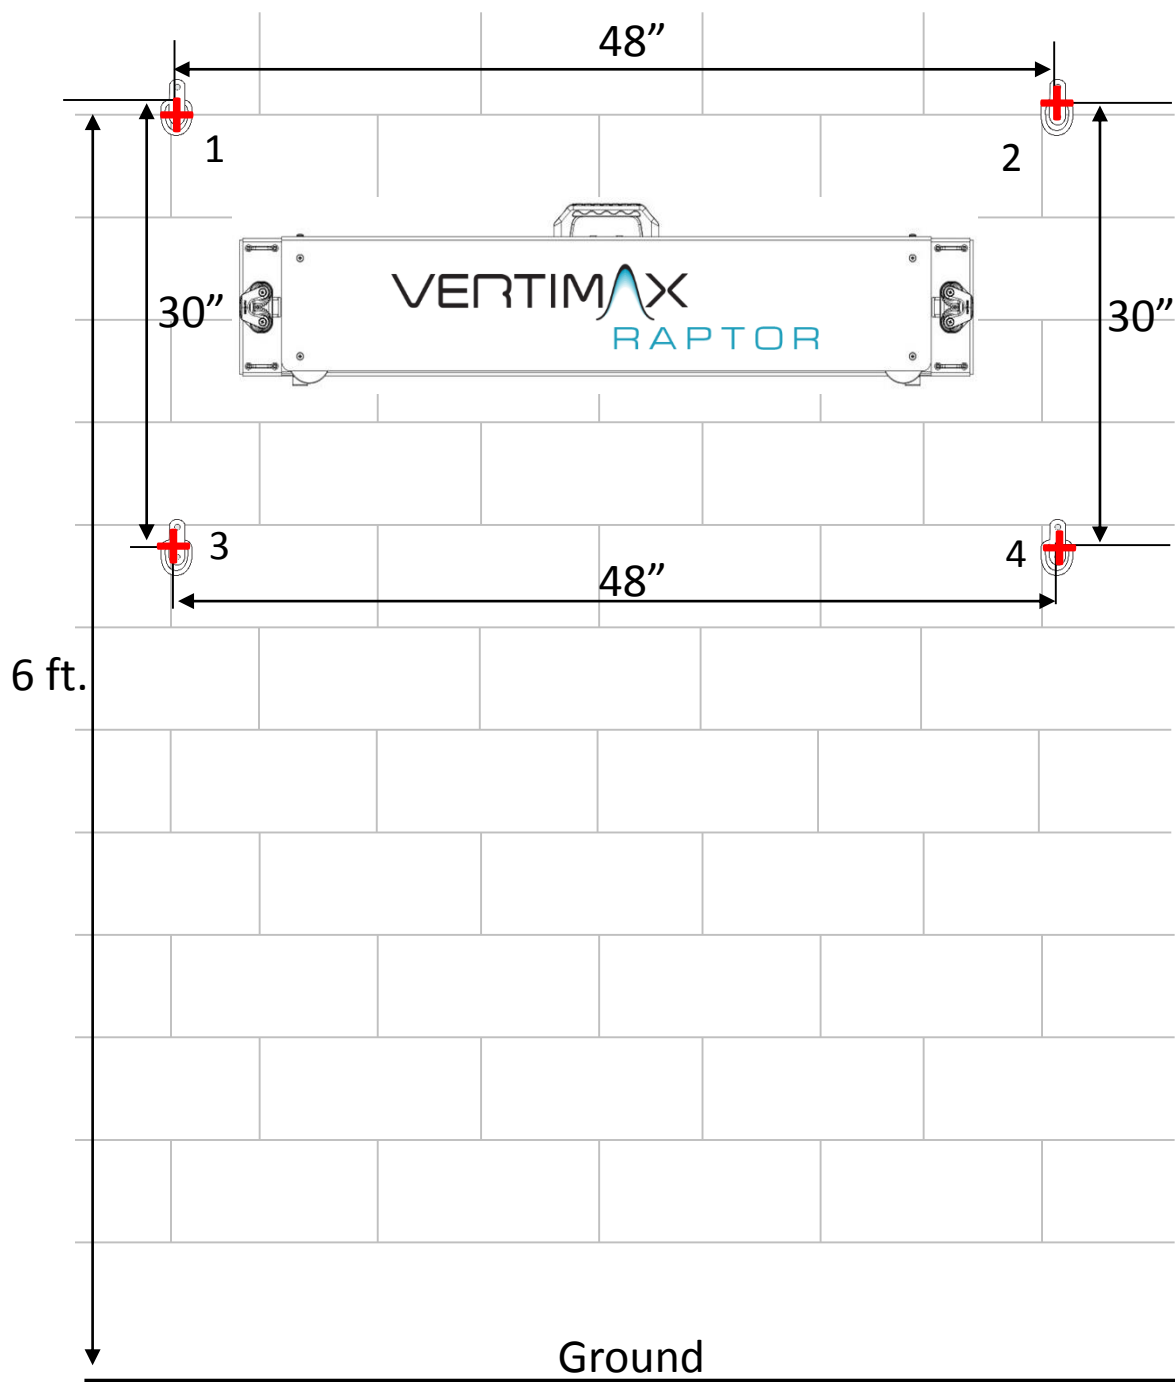

Figure 14
Step 1 – Referencing Figure 14, use the measurement specifications to mark the four locations indicated by the red **+** symbols and associated measurements.
Steps 2-6 – After mounting D-Rings 1-4 use the four Raptor attachment straps to attach the Raptor unit to the cinder block wall. The Raptor unit when attached to the wall should appear as shown in Figure 14.